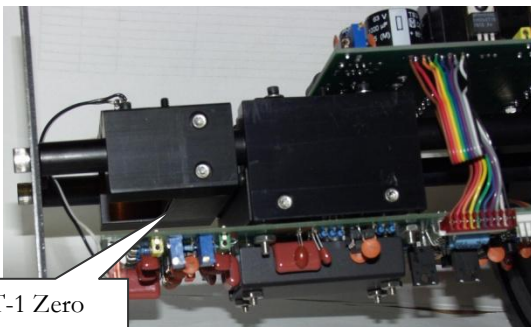

Figure 1
5. NOTE: All adjustments are on the 222-1667 PC Board (see figure 1).